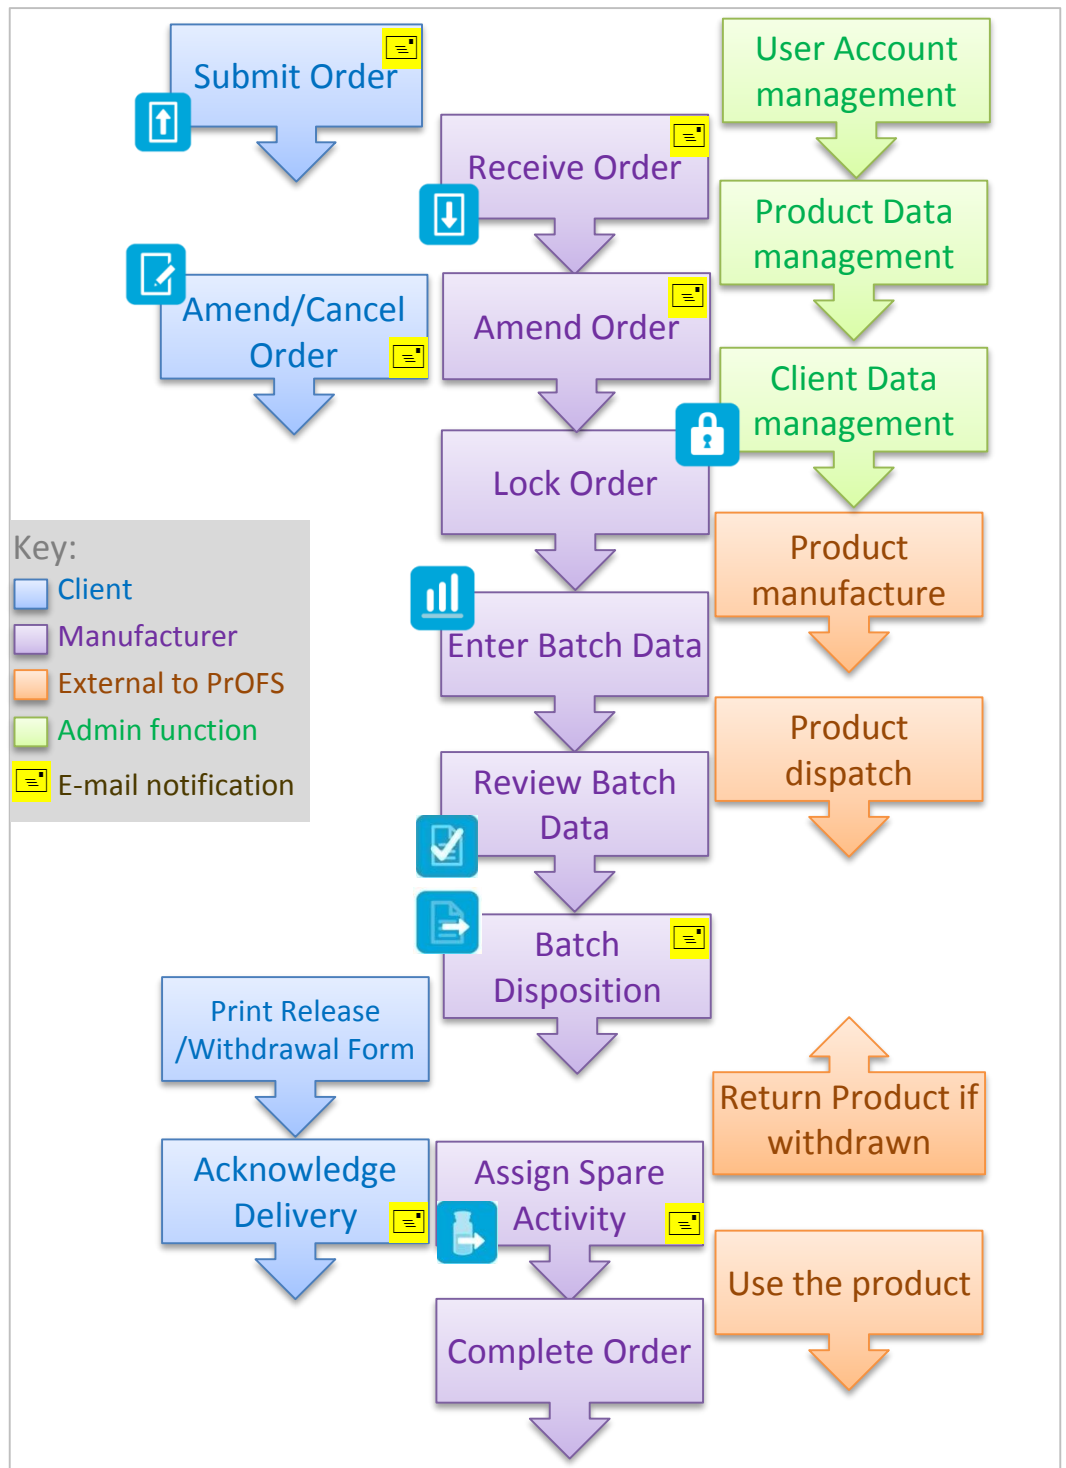

Figure 1-1 - Order Life cycle
PrOFS has been designed around a life cycle model for orders as shown in *Figure 1-1*. Orders are submitted by clients using the PrOFS web client. These orders are received by the manufacturer. The orders can be amended or cancelled by the client (or amended on their behalf by the manufacturer) until the orders are locked, just prior to manufacture. An order submission report can be printed by both parties as a record of their order.
The *PrOFS Web Client* uses standard browser features. The main page consists of three main areas, the header ❶, the main body ❷ and the footer ❸. See example in *Figure 1-1*.